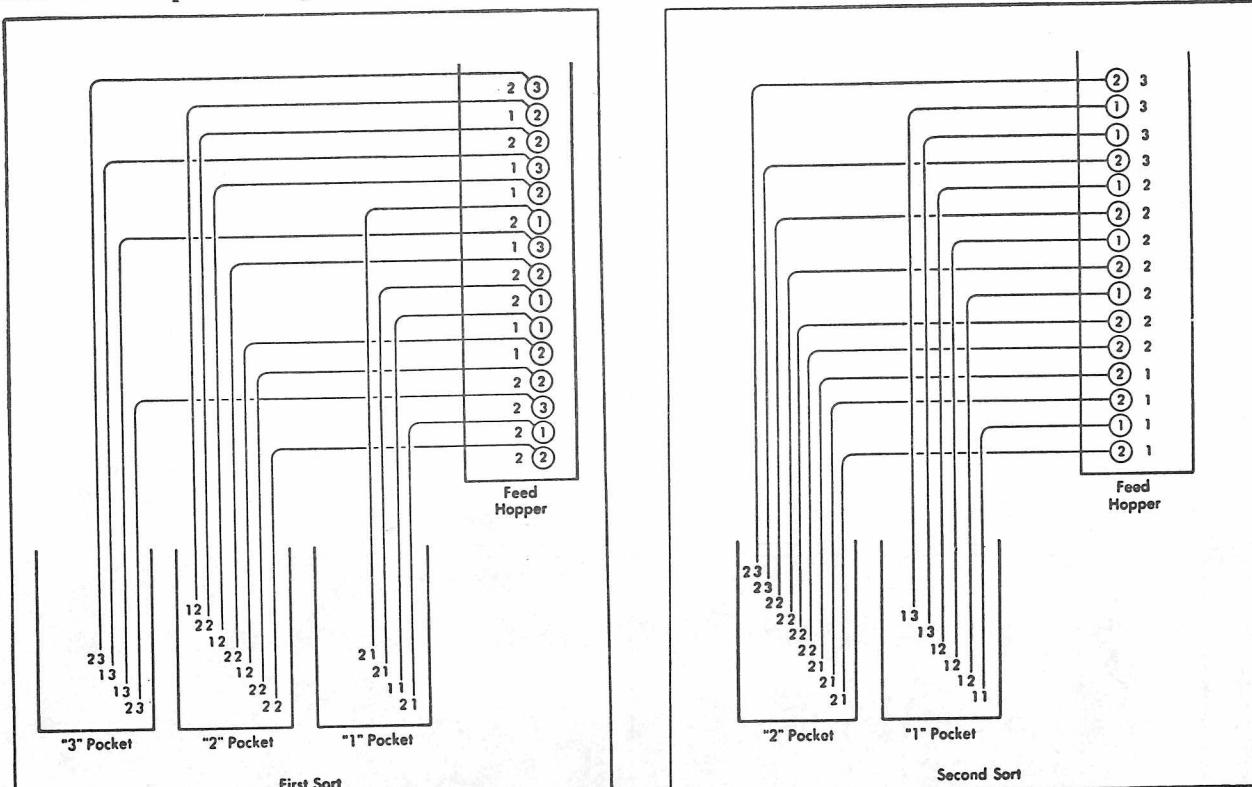

Figure 11. Sorting Exercise
As a practice exercise, let us take a group of cards which contain numerical punching and sort them into sequence. Figure 11 illustrates the
- The Start button would be pressed. After the last card has been processed, the machine would stop. The contents of the various pockets are illustrated in Figure 11 "First Sort", the left hand diagram.
- The cards are then joggled and placed in the feed hopper. They appear in the feed hopper as illustrated in the right-hand portion of Figure 11.
- After the last card has run through the machine, the sorter will stop. The contents of the various pockets are illustrated in Figure 11, "Second Sort", the right hand diagram. Of course, at this point the feed hopper is empty.